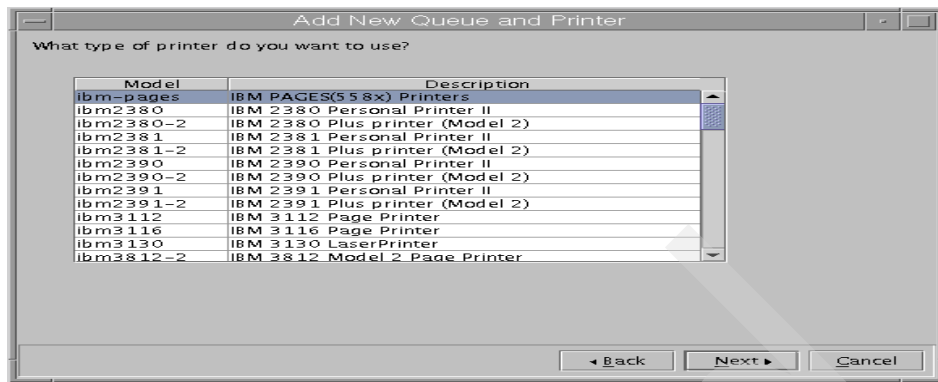
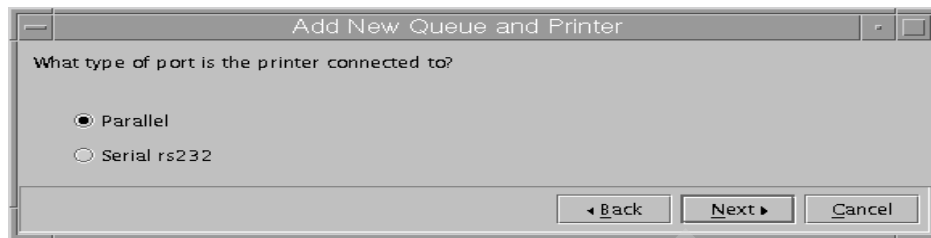

Figure 28. Selecting a model of the printer
Figure 30. Selecting a type of port
7. The next step is to select the printer model. In this example, shown in Figure 28 on page 211, we need to select the **IBM 4312** model. Click **Next**. If the device for this printer has been installed already, you will get the panel shown in Figure 30 on page 212; skip to Step 9. Otherwise, continue on to the next step.
9. You can choose type of port to connect to the printer. In this example, select **Parallel** and click **Next**, as shown in Figure 30 on page 212.